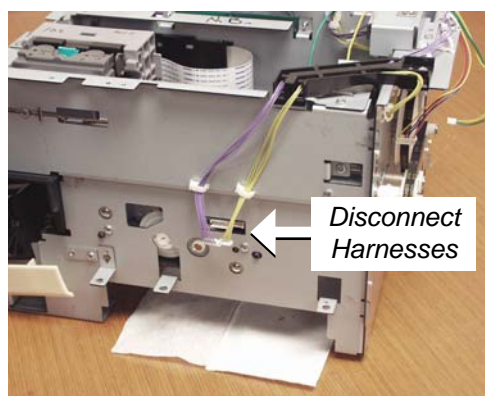

Figure 5-24 Disconnect Harnesses and Unscrew Wire Loom
2. Disconnect two harnesses from purge unit as shown (Figure 5-24). This is necessary to provide clearance.
3. Unscrew plastic wire loom (one screw) and let hang as shown (Figures 5-24 and 5-25).